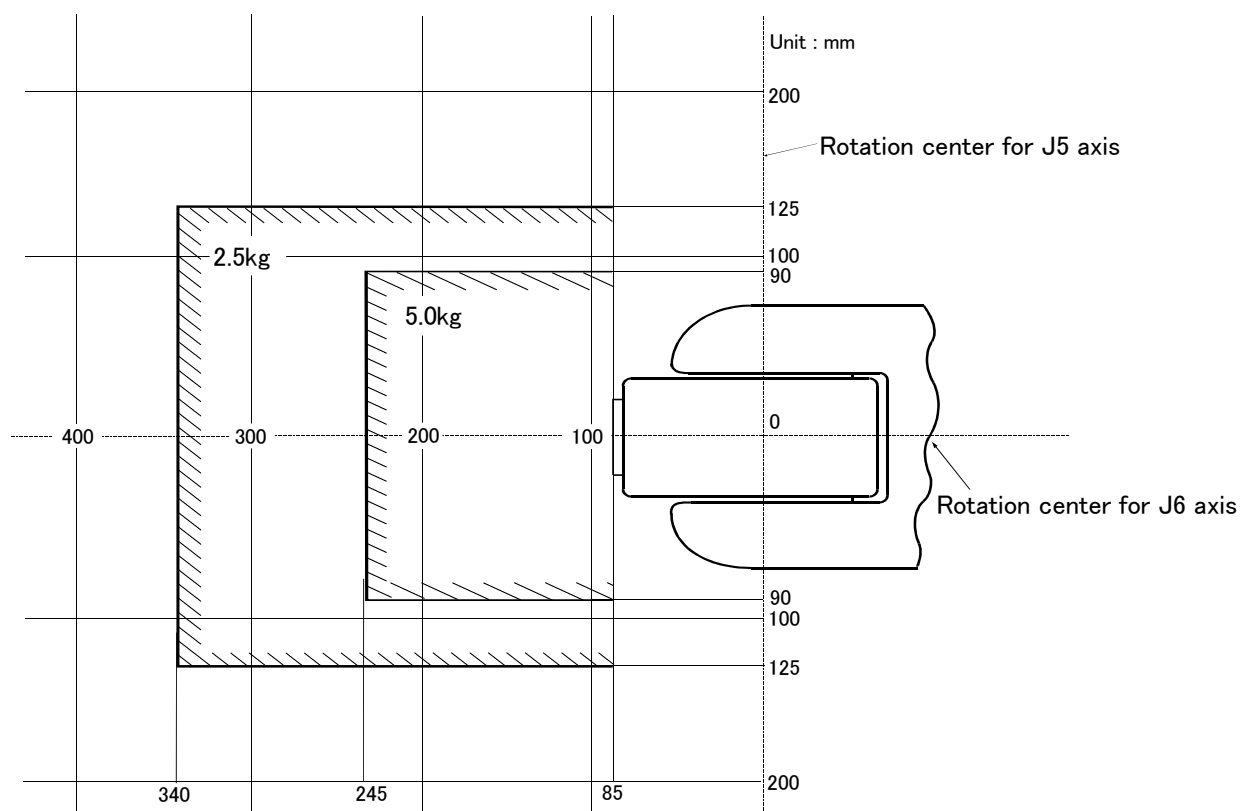

Fig.2-1 : Position of center of gravity for loads (for loads with comparatively small volume):RV-6SD/6SDL Series
- (1) The tooling should have the value less or equal than the smaller of the tolerable inertia and the tolerable moment found in Page 7, "Table 2-1 : Standard specifications of robot"
- (2) Fig. 2-1 shows the distribution dimensions for the center of gravity in the case where the volume of the load is relatively small. Use this figure as a reference when designing the tooling.
- (3) When the load is not mass, but force, you should design the tooling so that it does not exceed the value for allowable moment described in Page 7, "Table 2-1 : Standard specifications of robot"